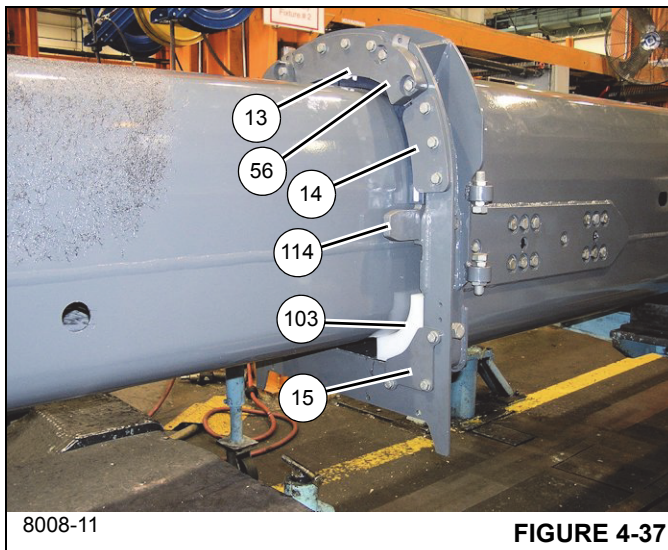

FIGURE 4-37
36. Insert tele 4 (5) three-quarters of the way into tele 3 (4).
37. Install the anti-roll plate (114) to the inside of tele 3 (4) using the two bolts (105) (left and right sides) (see Figure 4-37).
38. Using an adequate lift and sling, slightly raise the front of tele 4 (5) for the purpose of installing wear pads into the front of tele 3 (4).
39. Install the upper wear pad (103) into the front of tele 3 (4) using the two bolts (27) and nuts (28) (left and right sides); ensure the thin portion of the upper wear pad (103) is oriented to the side of tele 3 (4) (see Figure 4-37).
40. Install the keeper plate (15) to the front of tele 3 (4) using the three bolts (19), six flat washers (16), three lock washers (17), and three nuts (18) (left and right sides) (see Figure 4-37).
41. Lower tele 4 (5) down onto the newly installed wear pads (103).
42. Install the shims (100) and the front lower wear pads (101, 102) into the bottom of tele 3 (4).
43. Install the left, right, and bottom keeper plates (2x-14, 13) to the front of tele 3 (4) using the bolts (19), flat washers (16), lock washers (17), and nuts (18) (see Figure 4-37).
44. Install the stop block (56) to the front of tele 3 (4) using the two bolts (58), four washers (16), two lock washers (17), and two nuts (18) (left and right sides) (see Figure 4-37).